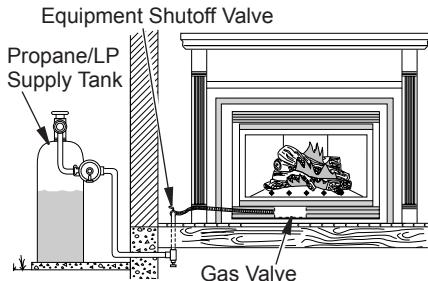
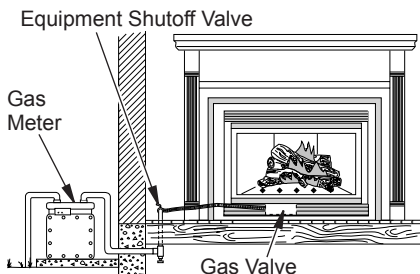

Figure 35 - Checking Gas Joints for Propane/LP Gas Fireplace
Figure 36 - Checking Gas Joints for Natural Gas Fireplace
3. Check all joints from propane/LP supply tank for propane/LP or gas meter for natural gas to equipment shutoff valve (see Figure 35 or Figure 36). Apply non-corrosive leak detection fluid to all joints. Bubbles forming show a leak. Correct all leaks at once.
4. Check all joints from equipment shutoff valve to gas valve (see Figure 35 or Figure 36). Apply noncorrosive leak detection fluid to all joints. Bubbles forming show a leak. Correct all leaks at once.